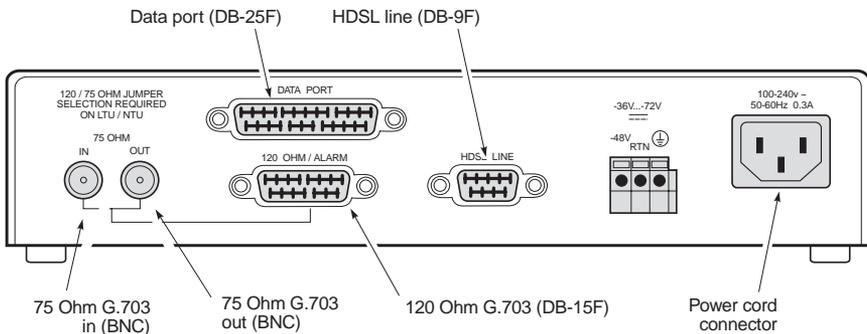

Figure 6. ERE-811 List 2 Rear Panel
- 4 Connect the DS1 port cable DB-15F (Figure 6 on page 9), if applicable.
- 5 Connect the Nx64K data port cable DB-25F (Figure 6), if applicable. The following adapters can be used when connecting the cable:
- 6 Connect the HDSL line port cable DB-9F (Figure 6). The following adapter can be used when connecting the cable: